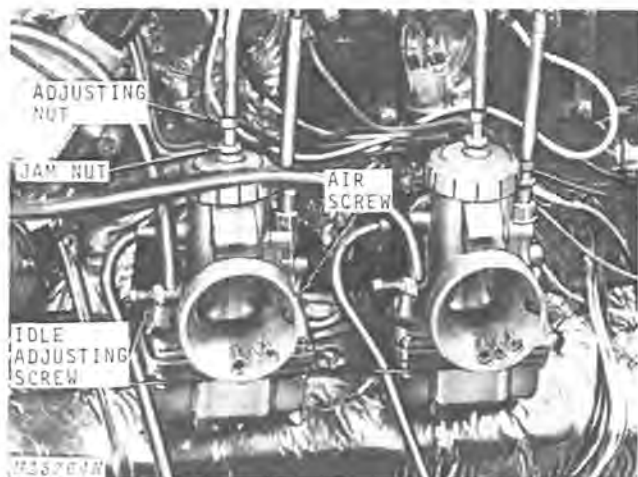

Fig. 19-Carburetor Adjustments
1. Loosen jam nuts, Fig. 19, on both throttle cables and turn the adjusting nuts clockwise until the throttle valves fully seat in the carburetor bores. Lock the jam nuts and adjusting nuts in place.